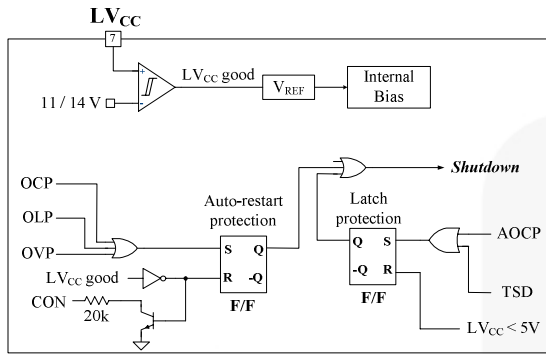

Figure 24. Protection Blocks
5. Protection Circuits: The FSFR-series has several self-protective functions, such as Overload Protection (OLP), Over-Current Protection (OCP), Abnormal Over-Current Protection (AOCP), Over-Voltage Protection (OVP), and Thermal Shutdown (TSD). OLP, OCP, and OVP are auto-restart mode protections; while AOCP and TSD are latch-mode protections, as shown in Figure 24.